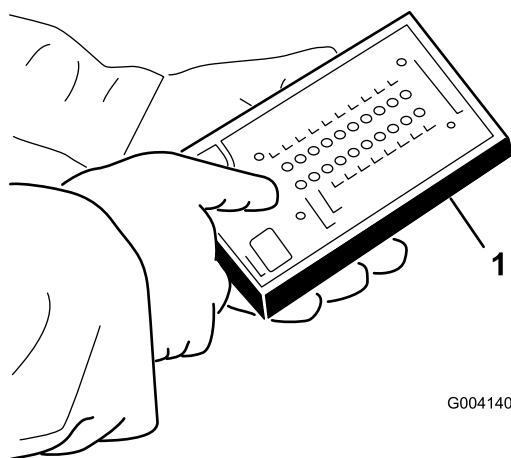

Figure 37
5. Connect the Diagnostic ACE display connector to the harness connector (Figure 37).